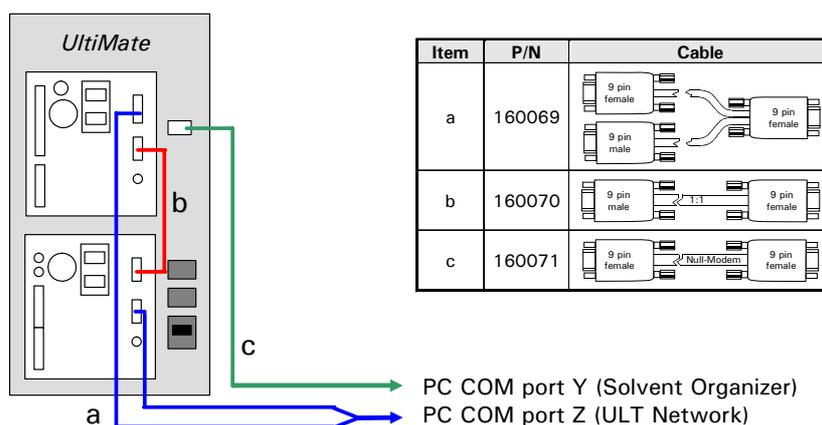

FIGURE 2-2 Setting up the RS-232 Connections – UltiMate
- a) Connect the Y-Cable between a free COM port on the PC, the RS 232-1 port on the Micropump and the RS 232-2 port on the UV-Detector (item a, FIGURE 2-2).
- b) Connect the RS 232-2 port on the Micropump to the RS 232-1 port on the UV-Detector with the Serial Cable (item b, FIGURE 2-2).
- c) Connect the Communication Solvent Organizer port to a free COM port on the computer, using the Solvent Organizer Communication cable (item c, FIGURE 2-2).